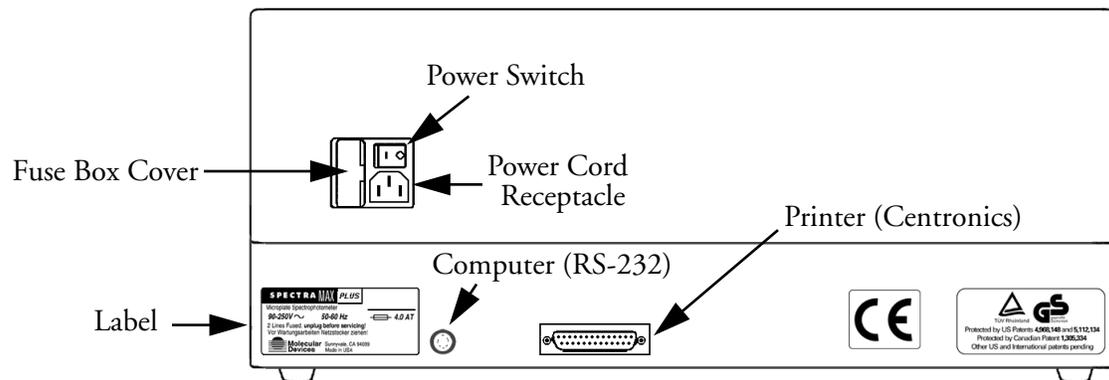

Figure 2.1: View of Rear Panel
- 2) Turn the instrument around so that the back of the instrument is facing you as shown in Figure 2.1.